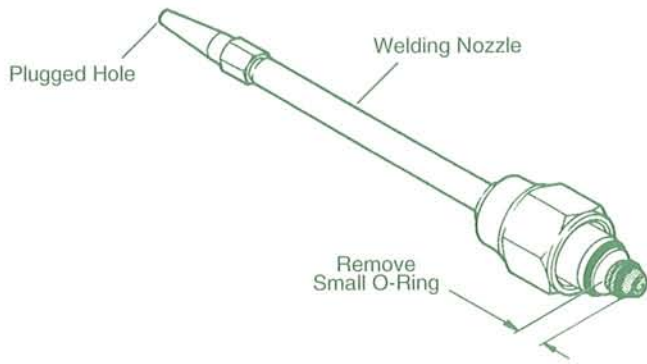

Fig. 4 - Plugged Welding Nozzle with Small O-Ring Removed
- A plugged Welding Nozzle with the small O-ring removed (See Fig. 4)
13. Install a Welding Nozzle that is plugged and altered as shown in Fig. 4, page 5. Remove the small seating surface as shown. This ensures that, for testing purposes only, back pressure will reach the Internal Check Valves.
18. Place the loose end of the disconnected Hose under water for at least ten (10) seconds.
19. Examine the Hose-end for bubbles. If there is more than one bubble in five (5) seconds, replace the Internal Check Valve.